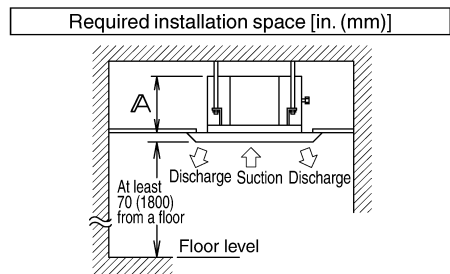

Fig. 1
- (1) Select the installation location that meets the following conditions and get approval of the customer.
- Where a space sufficient for installation and service can be ensured. (Refer to Fig. 1)